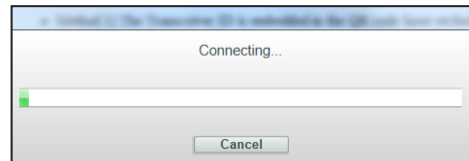

Figure 15. The Connection status bar.
- During the connection process, a status bar will be displayed. See Figure 15. Wait about 10 seconds for the connection process to finish, or click on the **Cancel** button to cancel the connection process.